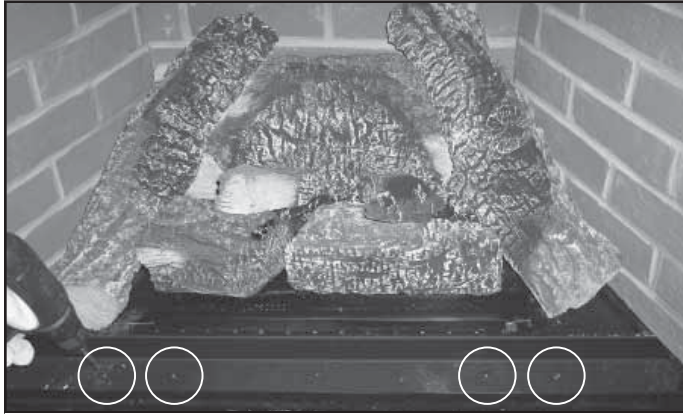

Figure 15.15 Remove Screws from Front of Hearth Pan
- Remove four screws from the front of the hearth pan as indicated in Figure 15.15.